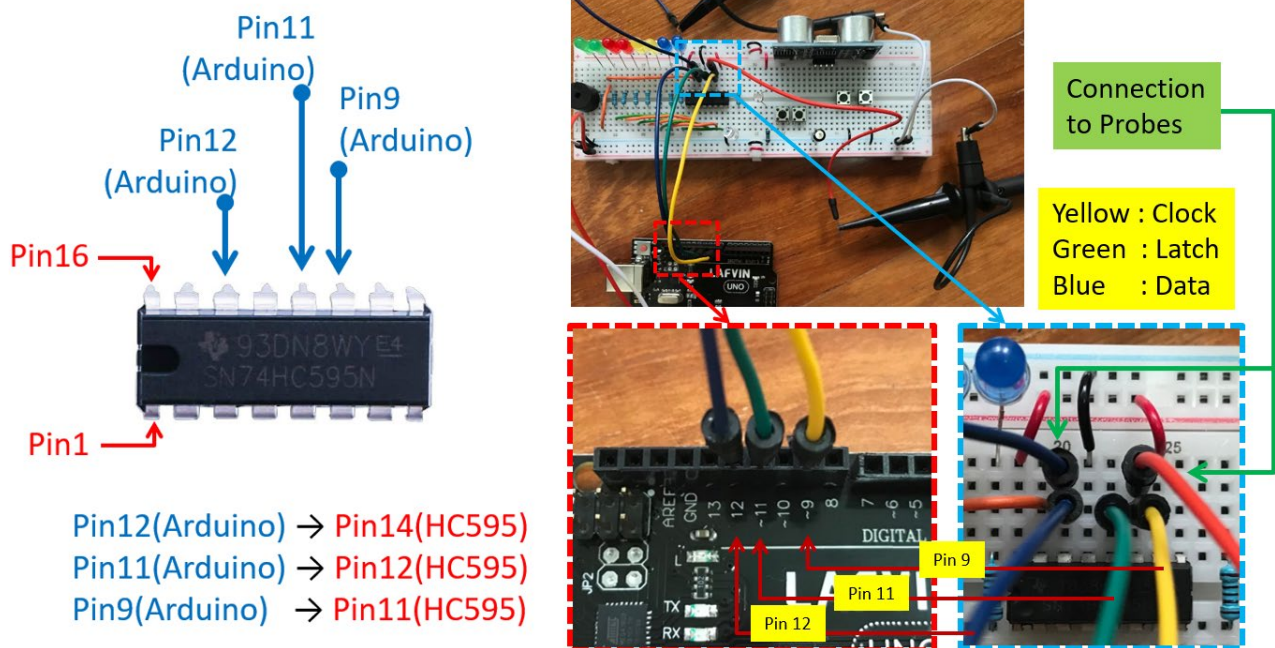

Fig. 19: Connecting Clock, Latch and Data signal of 74HC595 to Arduino Processor. Plus probe connections.
#Task: Connect the circuit as per Fig 19. You only need to connect the Clock, Latch and Data line. The power, ground and other control signals are already connected beforehand. This is shown as the Yellow, Green and Dark Blue wires in the Photo, note that the graphical illustration uses a different colour scheme. Also, probe the Clock and Data signal as shown in the photo in Fig 19. **Note: Pin9, 11 and 12 of Arduino should NEVER be connected directly to Ground or Vcc! The large current draw will damage the board and ICs.**
- Ensure that connection shown in Fig. 19 is done.